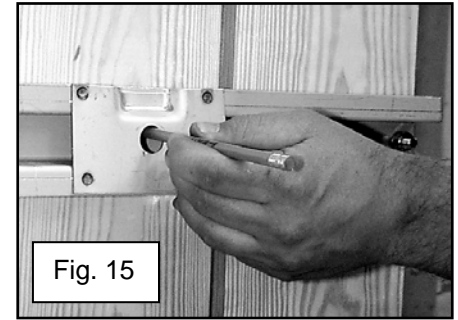

Fig. 15
17. The second bed-to-frame bolt location is in the first center cross sill. Mark the bottom of both boards through the 5/8" diameter cross sill holes that are **31-5/8"** apart from center of hole to center of hole. See figure 15. Remember that the first bed-to-frame bolts are in the front of the bed strips.